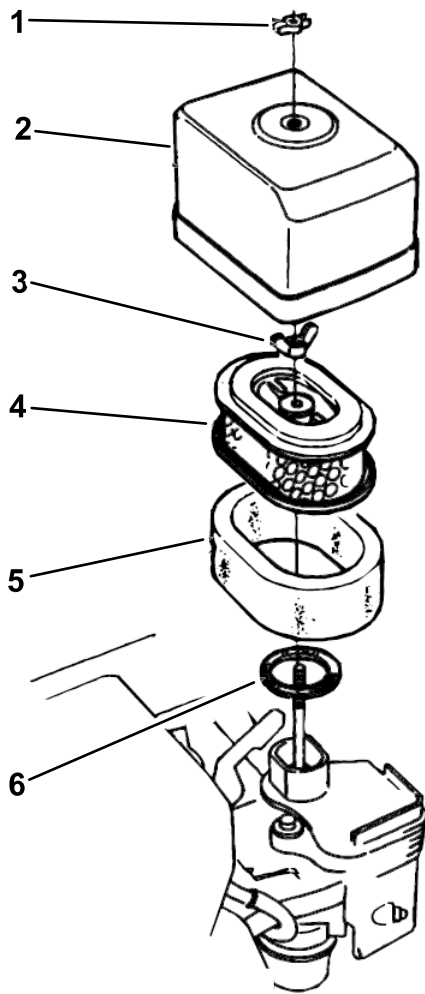

Figure 19
2. Remove the wing nut that secures the air-cleaner cover to the air cleaner and remove the cover. Clean the cover thoroughly (Figure 19).
3. Remove the wing nut from the air filter and remove the filter (Figure 19).
4. Remove the foam filter from the paper filter (Figure 19).